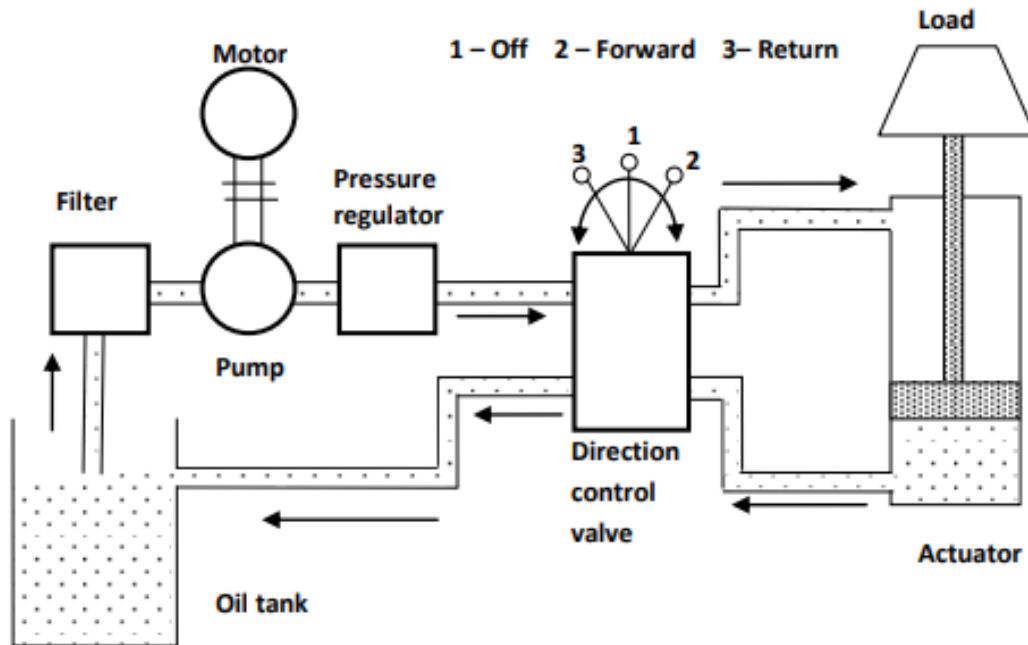

Figure 4. Components of a hydraulic system
Function of the components shown in figure 4 as follows:
8. Pressure regulator regulates (i.e., maintains) the required level of pressure in the hydraulic fluid. The piping shown in Figure. 4 is closed-loop type with fluid transferred from the storage tank to one side of the piston and returned back from the other side of the piston to the tank. Fluid is drawn from the tank by a pump that produces fluid flow at the required level of pressure. If the fluid pressure exceeds the required level, then the excess fluid returns back to the reservoir and remains there until the pressure acquires the required level. Cylinder movement is controlled by a three-position change over a control valve.